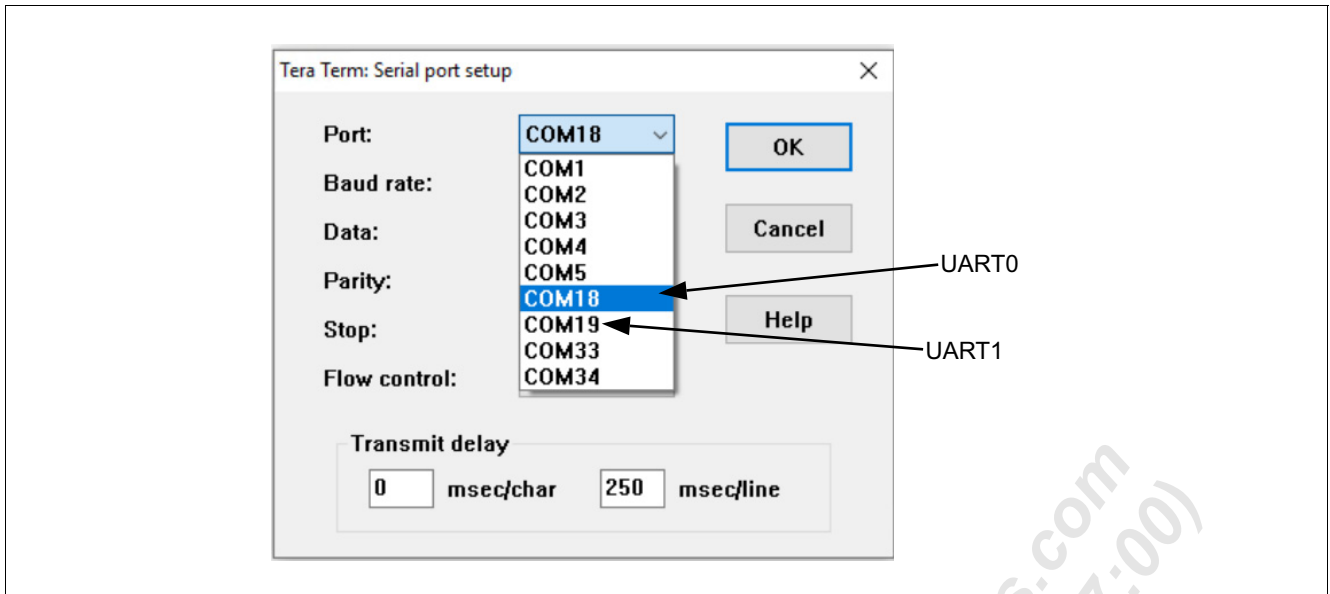

Figure 2 UART0 and UART1 Detected as COM Ports
5. Open a terminal emulation software and verify Microsoft* Windows* installed the UART0 and UART1 interfaces as COM ports. **Figure 2** provides an example of how these interfaces appear when using the TeraTerm* terminal emulation software.